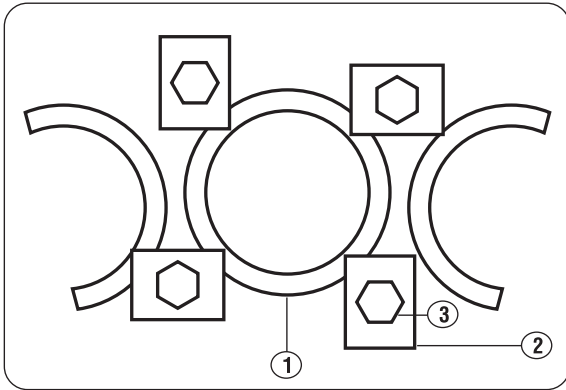

Fig. 12
2. Clamp the sleeve down using four holding adapters/plate shown in fig.12 place sleeve holding plate locally.